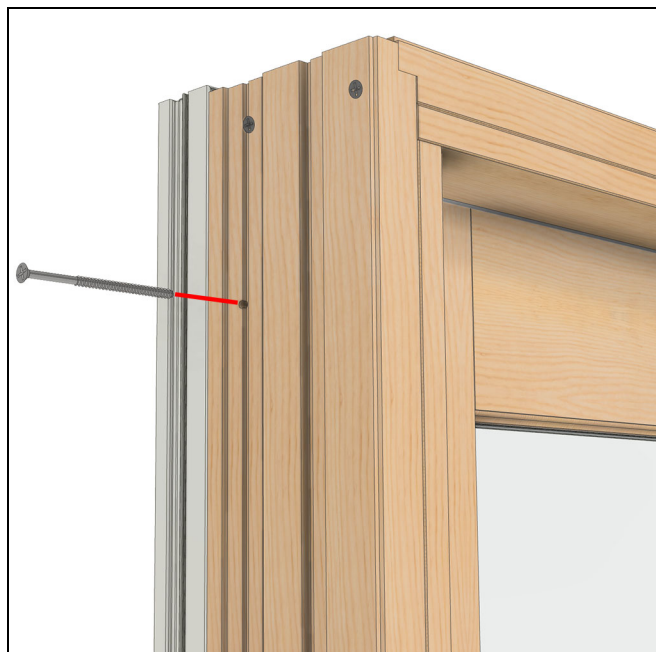

Figure 24
4. Fasten the panel in the frame with #8 x 3" screws provided. See Figure 24.